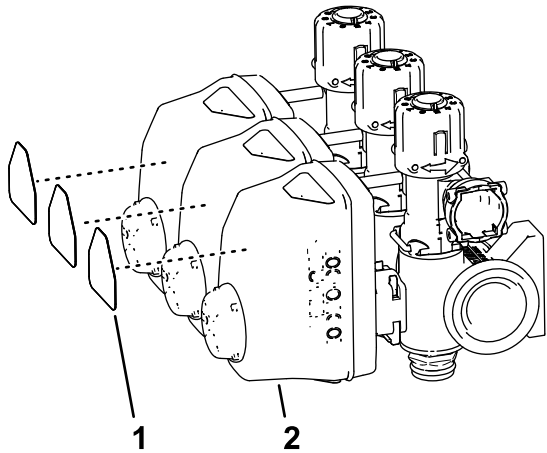

Figure 71
- Remove the decals from the actuators of the 3 section valves (Figure 71).